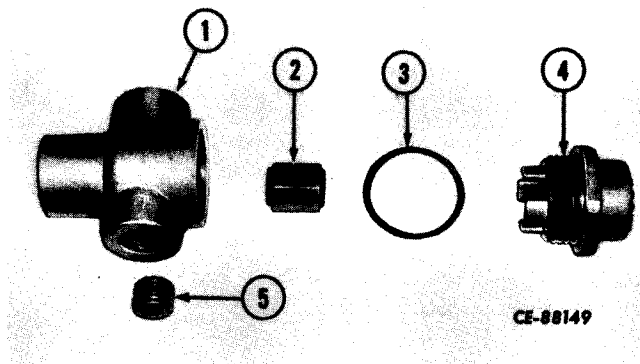

Figure 13-27
Remove cap (4, Fig. 13-27) and gasket (3). Slide seat (?) from body (1). Remove plug (5). Discard gasket (3).